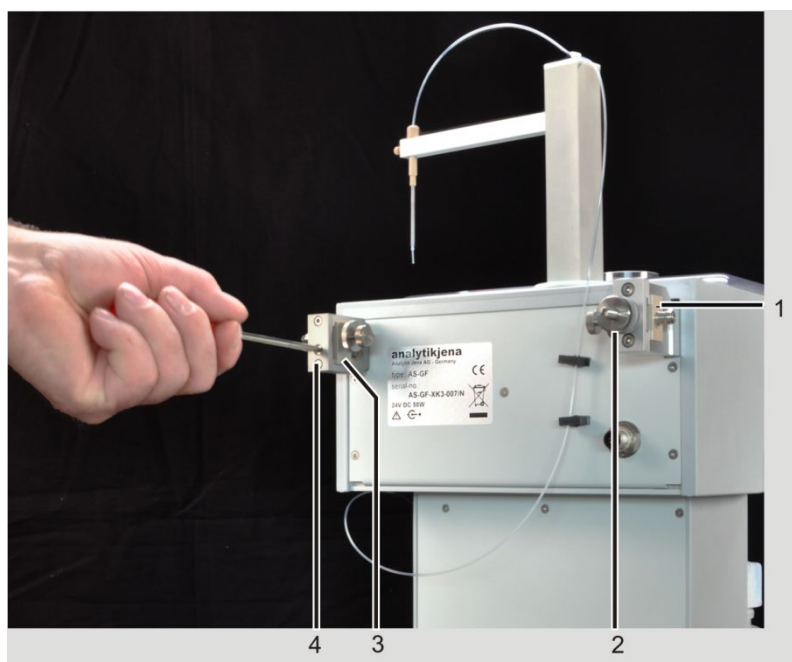

Fig. 36 Aligning the AS-GF with the furnace
5. If necessary, align the AS-GF with the furnace (coarse adjustment): manually rotate the autosampler arm over the dosing opening in the graphite tube. If the dosing tube does not align with the opening, the suspension of the autosampler must be moved forward or back. To this end unhook the autosampler from the sample chamber. Move the left and right suspension mounts with the aid of adjusting screw 1 and the set screw (2 and 4 in Fig. 36). Hook the autosampler back in.